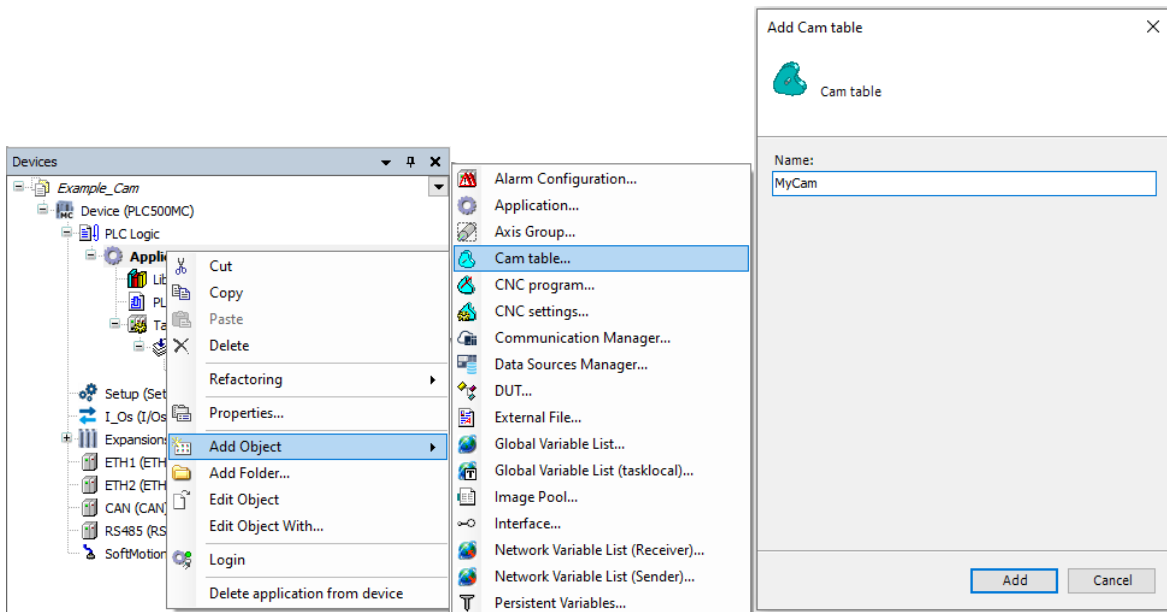

Figure 5.13: Creating cam table.
- In the opened dialog, define the name, as shown in Figure 5.13.